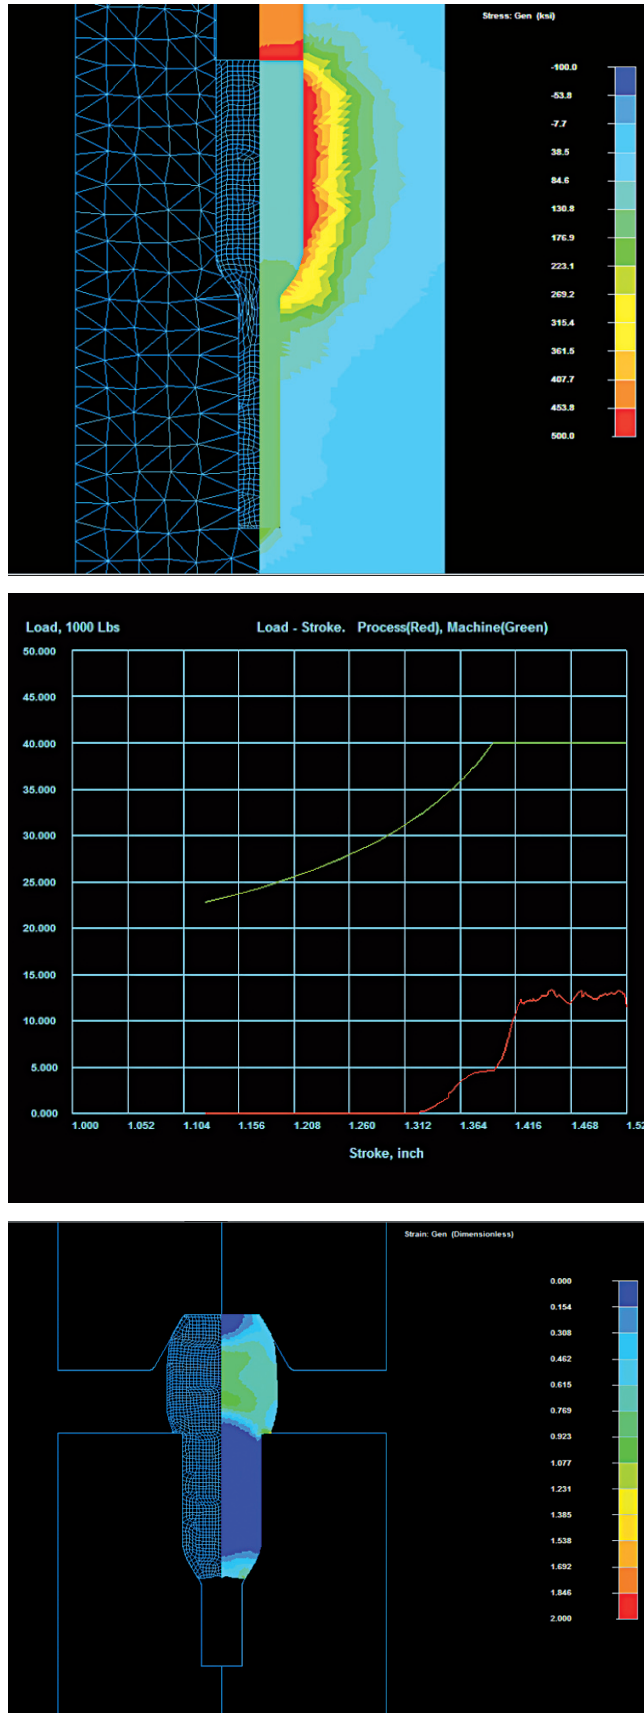

Fig. 2 – Trap extrusion showing high stress on tools (top); Load stroke versus machine capacity (middle); and Open extrusion showing material bulge (bottom).
- **Trap Extrusion**—Percentage reduction in trap extrusion is limited by the stresses in the tools and the material ductility. See the simulation of the trap extrusion process found in **Figure 2** on next page of this article. As the reduction increases, so do the stresses in the die and the punch, and the plastic strain in the extruded part. For long extrusions, available load capacity may limit the reduction.
- **Open Extrusion**—The extent of reduction in open extrusion is limited by the yield strength of the material. See the simulation of combined open extrusion and heading processes in **Figure 2** (on next page). High reduction in open extrusion is causing the part to upset first instead of extruding first.